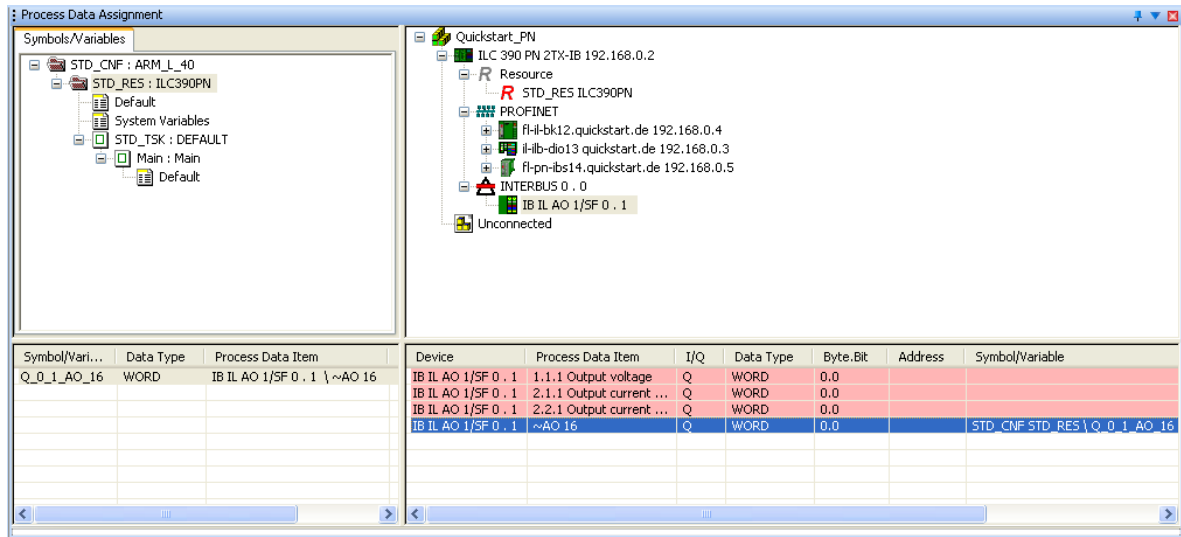

Figure 4-19 Variable generated for process data item "~AO 16"
- In the top left window, select the resource or program (in Figure 4-19: resource "STD_RES: ILC390PN").
- Select the process data item for which you would like to generate a variable (~AO 16 in Figure 4-19).